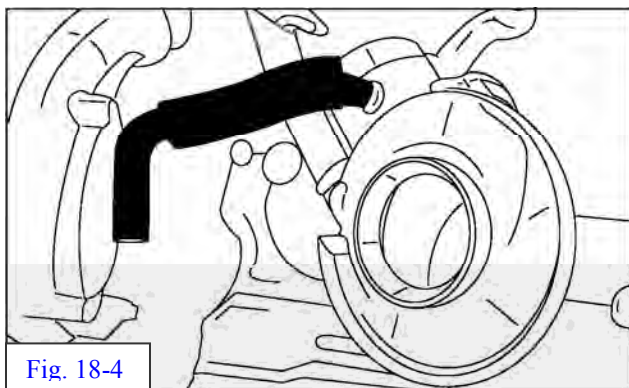

Fig. 18-4
- (e) Install O.E. valve cover breather hose and O.E. clamp onto cast aluminum TRD intake manifold. Install intake with bypass hose to bypass valve. Do not tighten hose clamps yet. (Fig. 18-4).